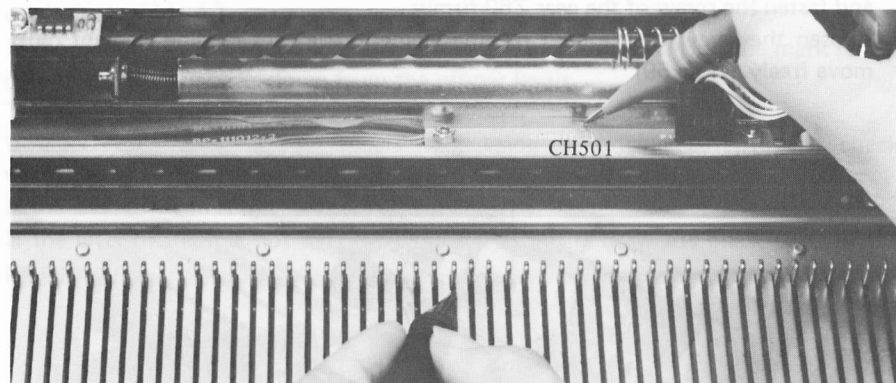

Fig. 55
5. Set the tester to the DCV 10 range, connect the black terminal of it to the metal part of the machine body and the red terminal to the check pin (CH501) of the mark sensor to check the output voltage of the mark sensor. (Fig. 55)